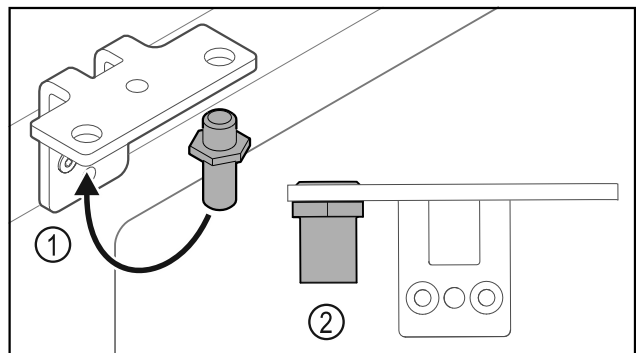

Fig. 55
- Put the pin back into the hinge Fig. 55 (1).
- Tighten the pin Fig. 55 (2) to a **torque of 12 Nm**.